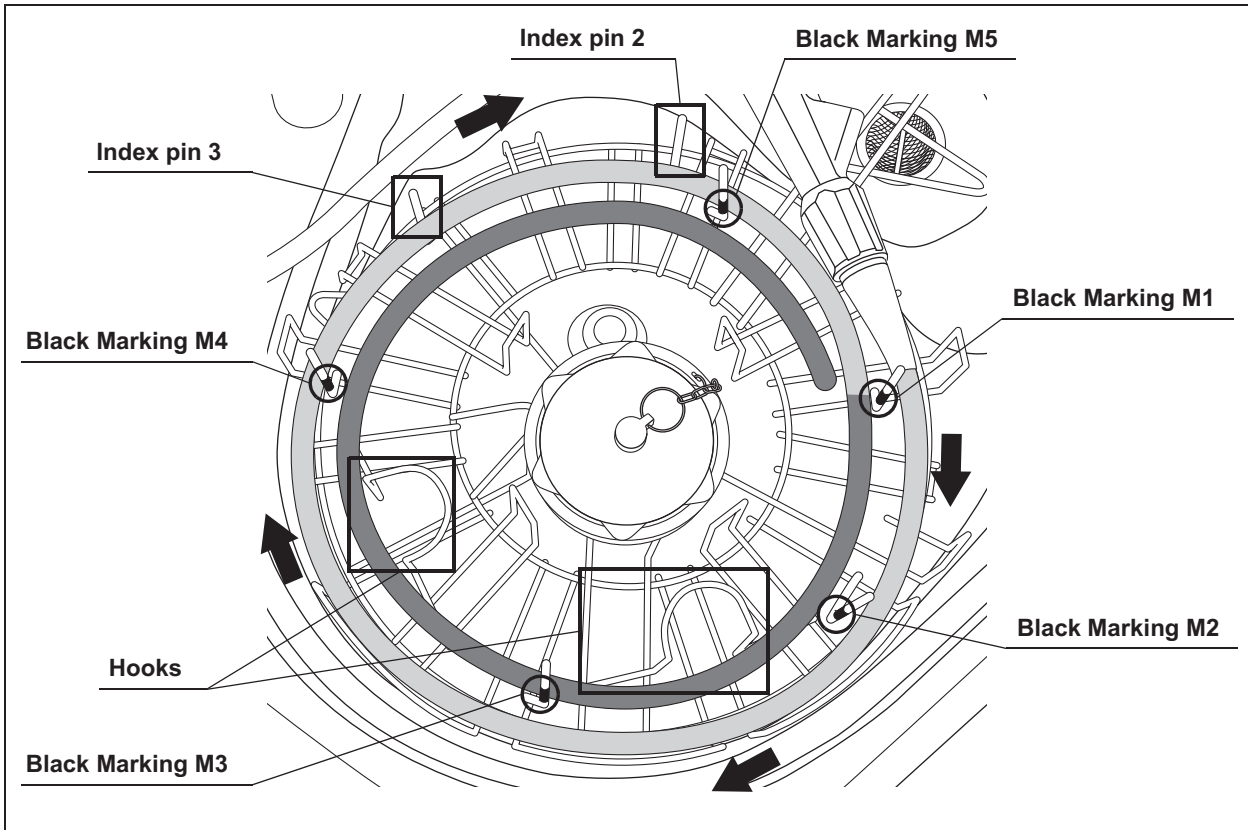

Figure 6.3
- 3** Wrap the insertion tube clockwise around the retaining rack from the perimeter in. Wrap the first turn of the insertion tube outside the black markings from M1 to M5 and inside the index pin 2 and 3 (shown in light gray). Wrap the second turn inside the black markings from M1 to M5 and outside the hooks (shown in dark gray). Refer to Figure 6.3.